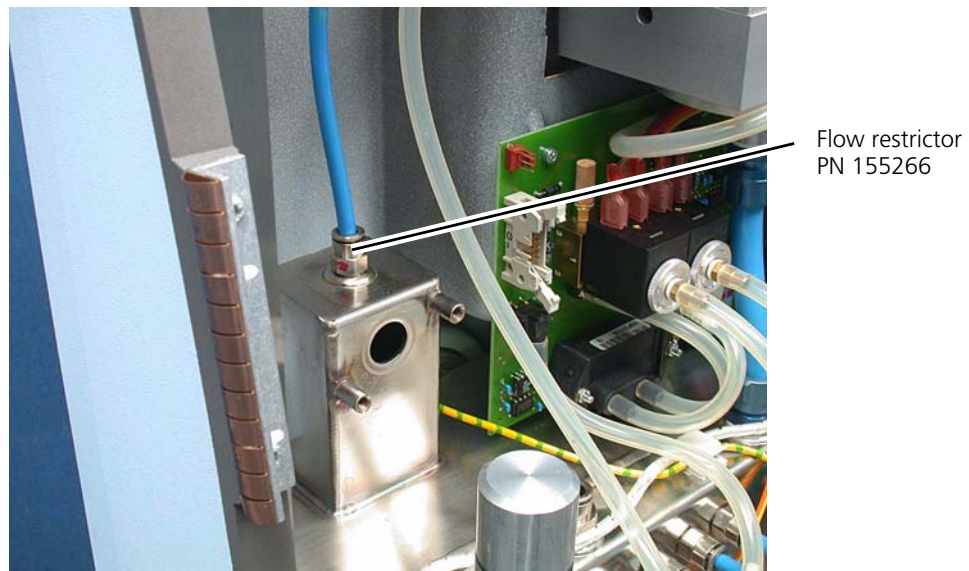

Figure 11-224. The flow restrictor for the tank to oxygen-cell flow
- Figure 11-224, *The flow restrictor for the tank to oxygen-cell flow*, on page 11-202
- Figure 11-224 shows the flow restrictor for the sample gas-flow from the tank to the oxygen cell. (This flow enables the cell to measure the oxygen in the gas supplied to the patient.)
3. If you must remove flow restrictor PN 155266 (Figure 11-224), remove the inspiratory valve now, as described in Section 11.22.6, *Replacing the inspiratory valve / servo board assembly*, on page 11-111.